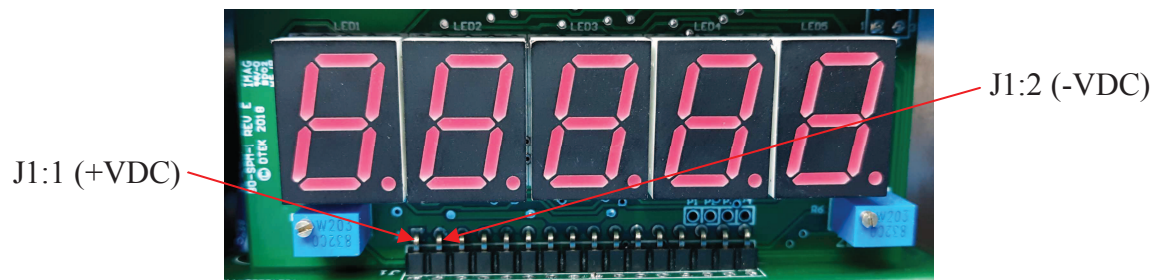

Figure 16: Power Supply Test Points
4.3.10 Apply the designated power, in this case AC Volts. Verify the output on pins J1:1(+VDC) and J1:2(-VDC) is between 4.9 and 5.1 DC Volts. The exact location of the test points is shown in **Figure 16**. It is important not to puncture the Conformal coating near the edge or on the bottom side of the assembly.